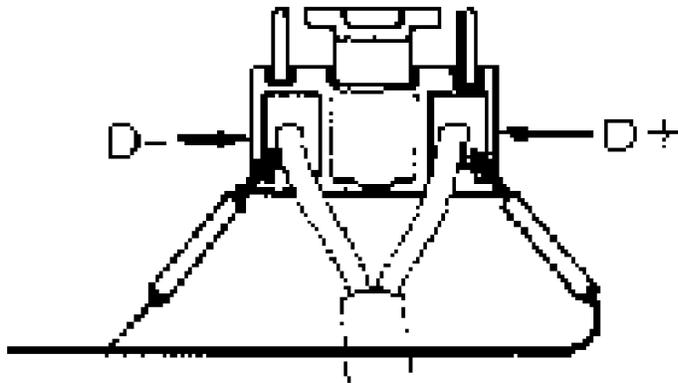

Fig. 12: Spiral Cable-To-Steering Wheel Pad Connector Terminal ID
4) Measure resistance between terminals D+ and D- on spiral cable side of connector between spiral cable and steering wheel pad and body ground. See Fig. 12. If resistance is infinite, go to next step. If resistance is not infinite, go to step 10).
10) Disconnect connector between center air bag sensor assembly and spiral cable. Measure resistance between terminals D+ and D- on spiral cable side of connector between spiral cable and steering wheel pad and body ground. See Fig. 12. If resistance is infinite, repair or replace harness or connector between center air bag sensor assembly and spiral cable. If resistance is not infinite, repair or replace spiral cable.
4) If no voltage is present, measure voltage at terminal D+ on spiral cable side of connector between spiral cable and steering wheel pad. See Fig. 12. If no voltage is present, go to step 5). If voltage is present, turn ignition switch to LOCK position. Disconnect connector between center air bag sensor assembly and spiral cable. Turn ignition switch to ON position. Measure voltage at terminal D+ on spiral cable side of connector between spiral cable and steering wheel pad. If no voltage is present, repair or replace harness or connector between center air bag sensor assembly and spiral cable. If voltage is present, repair or replace spiral cable.
5) Turn ignition switch to LOCK position. Disconnect negative battery cable. Reconnect center air bag sensor connector. Using Diagnosis Check Wiring (09843-18020), jump terminals D+ and D- on spiral cable side of connector between spiral cable and steering wheel pad. See Fig. 12. Reconnect negative battery cable.
Squib circuit consists of center air bag sensor assembly, spiral cable and steering wheel pad (squib). Squib causes air bag to deploy when air bag deployment conditions are satisfied. Code 13 is recorded when a short is detected in D+ wire harness and D- wire harness of squib circuit. See Fig. 12.
2) Measure resistance between D+ and D- on spiral cable side of connector between spiral cable and steering wheel pad. See Fig. 12. If resistance is 1000 ohms or more, go to next step. If resistance is not 1000 ohms or more, go to step 6).
6) Disconnect connector between center air bag sensor assembly and spiral cable. Release air bag activation prevention mechanism on center air bag sensor assembly side of spiral cable connector. Measure resistance between terminals D+ and D- on spiral cable side of connector, between spiral cable and steering wheel pad. See Fig. 12. If infinite resistance is present, go to next step. If infinite resistance is not present, repair or replace spiral cable.
7) Disconnect center air bag sensor assembly connector. Release air bag activation prevention mechanism on center air bag sensor assembly connector. Measure resistance between terminals D+ and D- on center air bag sensor assembly side of connector between center air bag sensor assembly and spiral cable. See Fig. 12. If resistance is infinite, go to next step. If resistance is not infinite, repair or replace harness or connector between center air bag sensor assembly and spiral cable.
8) Reconnect center air bag sensor assembly connector. Measure resistance between terminals D+ and D- on center air bag sensor assembly side of connector between center air bag sensor assembly and spiral cable. See Fig. 12. If resistance is 1000 ohms or more, system is okay. If resistance is not 1000 ohms or more, replace center air bag sensor assembly.
2) Disconnect center air bag sensor assembly connector. Measure resistance between terminals D+ and D- on spiral cable side of connector between spiral cable and steering wheel pad. See Fig. 12. If resistance is more than one ohm, go to next step. If resistance is less than one ohm, go to step 5).
3) Reconnect center air bag sensor connector. Using Diagnosis Check Wiring (09843-18020), jump terminals D+ and D- on spiral cable side of connector between spiral cable and steering wheel pad. See Fig. 12. Connect negative battery cable, and wait at least 2 seconds.